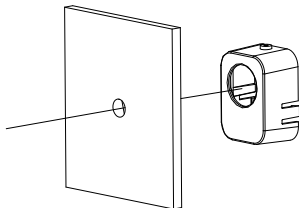

**Figure 2-4 Drill on the Surface**
1. Drill on the mounting surface, as shown in Figure 2-4.